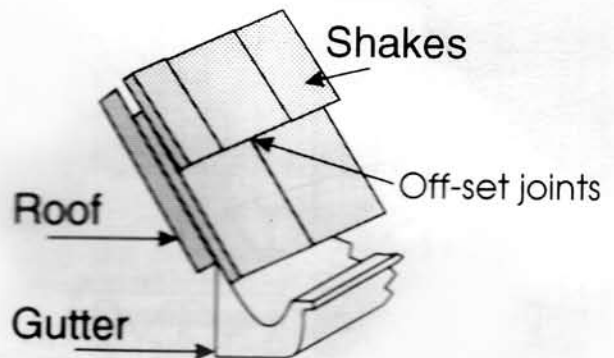

Figure 40
- a. Using the lines drawn earlier on the Roof parts, glue a row of shakes starting at the bottom. When gluing the second row of shakes, off-set the row 1/2 a width of a shake so that the center of the shake is over the junction of the two shakes below. See Figure 40.
2. Assemble and Install Gutters and Downspouts. See Figure 40 and front view on label.